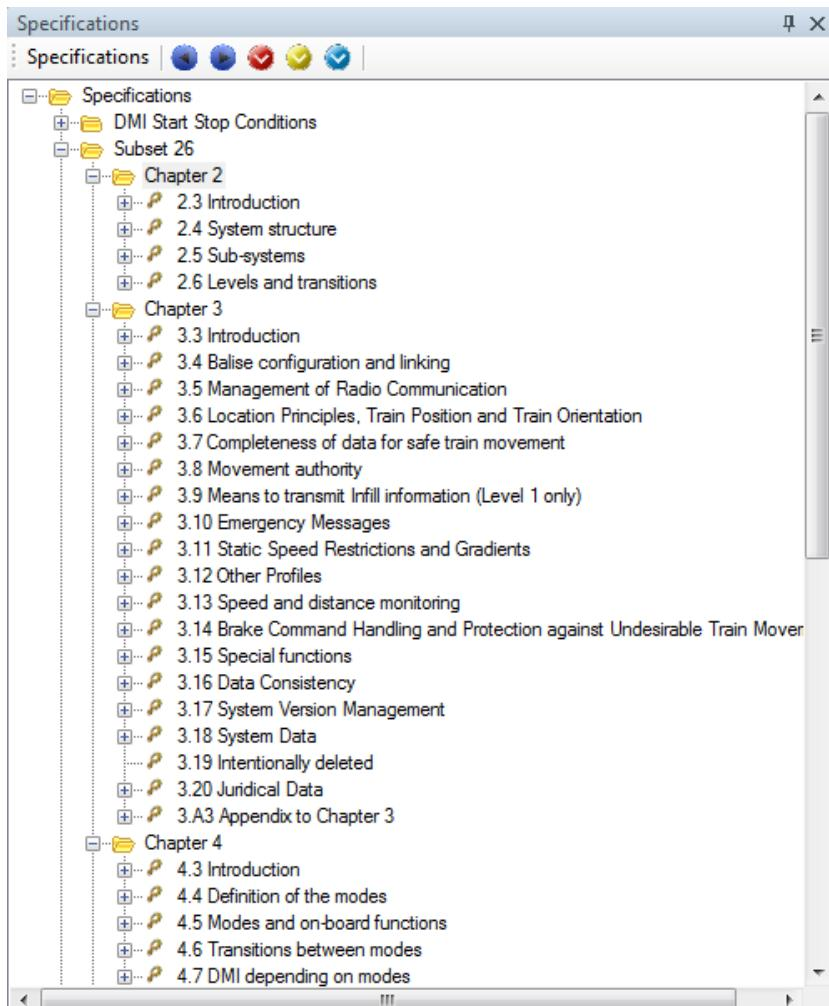
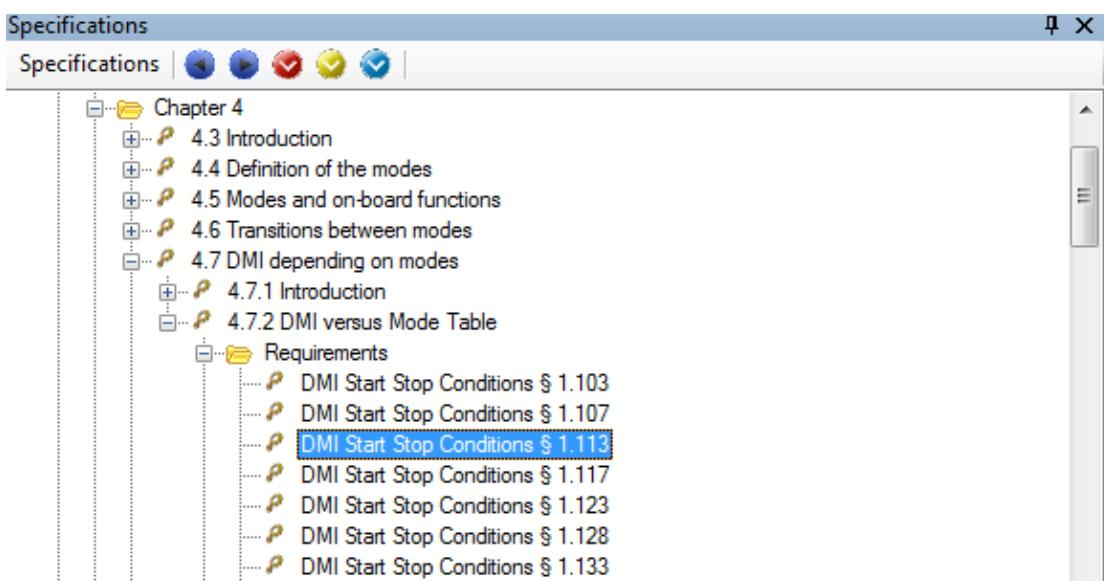

Figure 22: Overview of the given names for tabluar requirements
Figure 23: Handling of tabular requirements in specifications browser
- In tables, each line of the table is an individual sub-requirement. The identifier of these sub-requirements is composed of the identifier of the table and an extra number for the row. (For instance Figure 23 shows a requirement coming from [2], Chapter 4, paragraph 4.7.2 “DMI versus Mode table”) and adding before the requirement number the keyword.
Figure 22 and Figure 23 depict the strategy of classification used on EFSW: